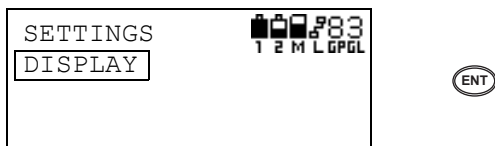

Figure 3-138. Press Enter to Select Display
- On the Settings screen, press **Enter** to select DISPLAY (Figure 3-138).